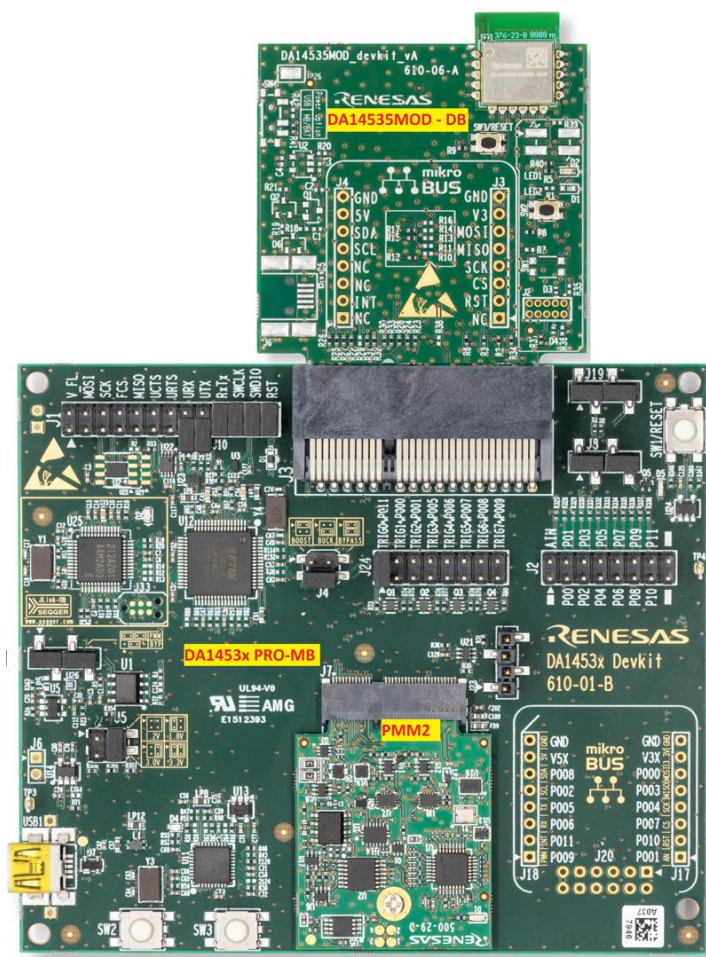

Figure 2. DA14535 SMARTBOND TINY™ MODULE DEVKIT
DA14535 SMARTBOND TINY™ MODULE development kit is implemented on a Daughterboard (DB) (610-06-A) and it comes with DA1453x Pro-MB (610-01-B) and PMM2 (500-29-E), Figure 2.